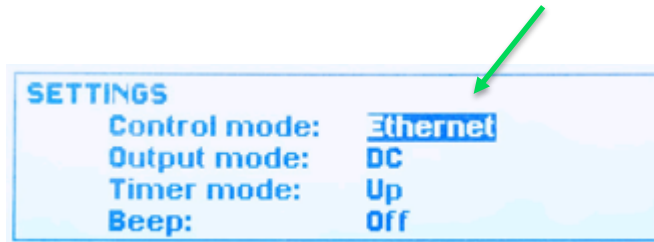

Fig.4.3.2
1. **Control mode:** Local, Analog, Serial, or EthernetIP – Fig.4.3.2